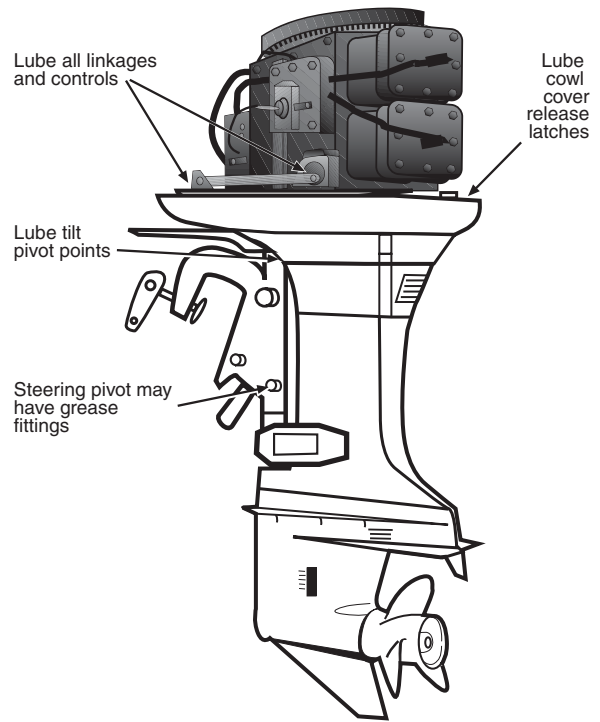

Figure 3-5. Typical lubrication points.
**Grease Points.** All grease points on your engine should be filled with fresh grease as recommended by your manufacturer for the specific engine location. Keep pumping in grease until all the old grease—and any water—is forced out. It's a messy business, so wipe the old stuff away with a rag as it emerges around the lube point. See Figure 3-5 for the grease points commonly found on most engines.